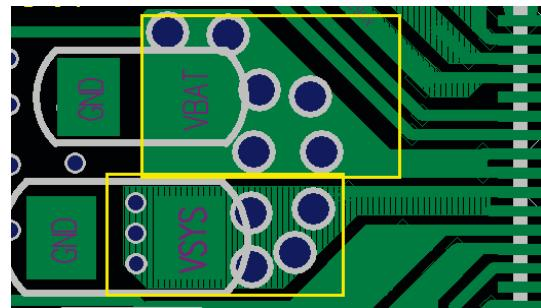

Figure 4-66 VBAT Power Vias
- The traces of VBAT+ and VCC\_SYS need to be considered 3-5 A load-current capability, could not have too much voltage drop, so the power vias need enough large aperture and enough more quantity. The Q23008 in Figure 4-66 is also used to reduce the internal power-path impedance of RK818-3, which can make the main power circuit impedance smaller, give full play to the battery performance.